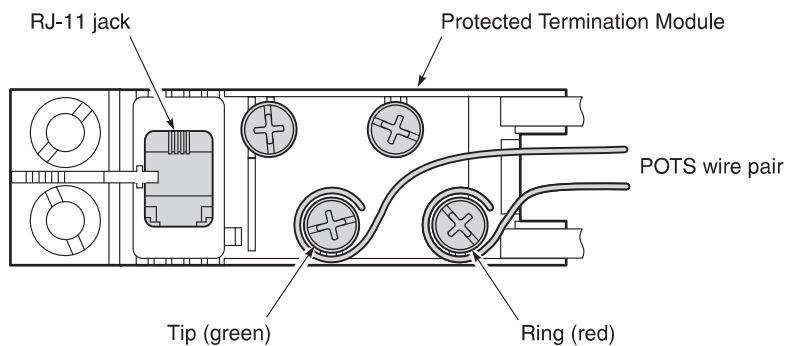

Figure 10. Attaching the POTS Wire Pair
- 2 Insert the POTS wire pair through the cutout on the right side of the Protected Termination Module door (Figure 10).